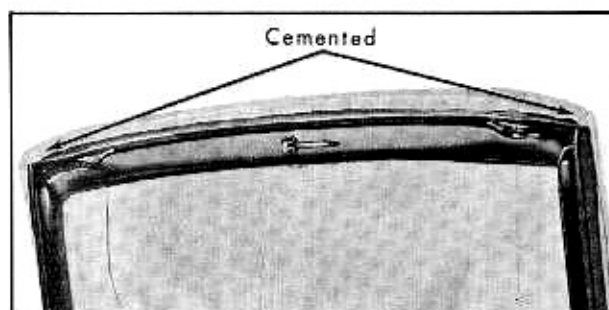

Fig. 3-114 Cementing Top Material to Front Roof Rail
17. Next, unlock the top and tack the material to the rail. Fig. 3-114. Note the mitered folds at the outer seams.